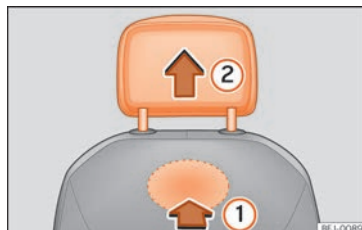

Fig. 67 Front head restraint: removal.
- To unlock it, look for the rabbit on the bottom of the backrest and press in the direction of the arrow >>> Fig. 67 ①.
- Remove the head restraint in the direction of the arrow ②.